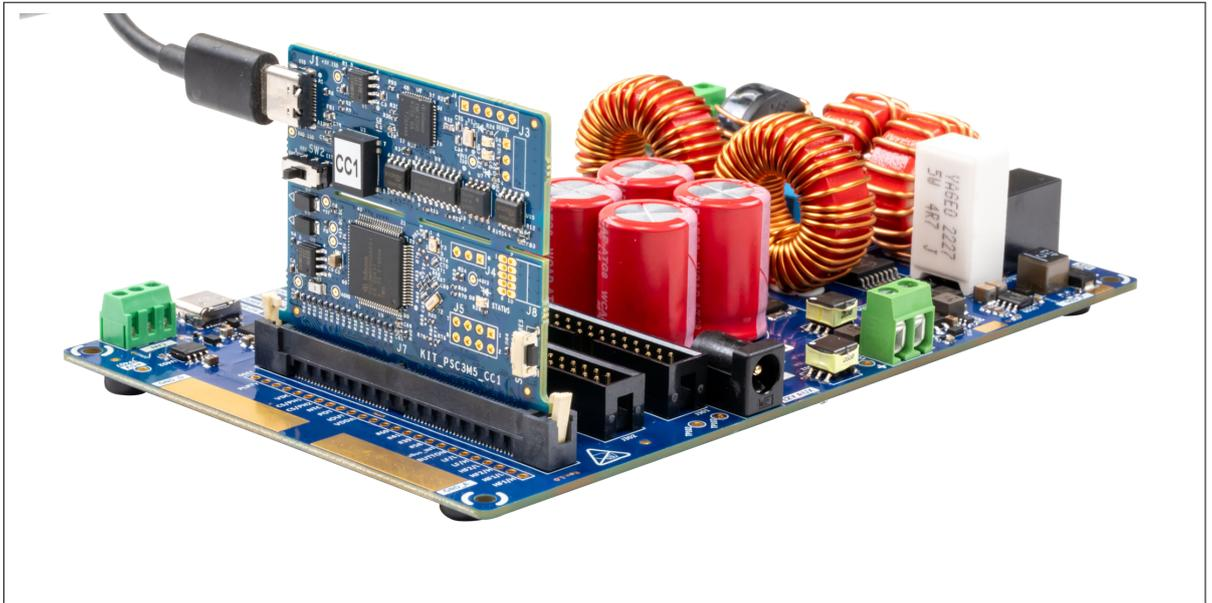

Figure 8 USB-C cable setup for programming the PSOC™ C3 Control Card
3. Connect the USB-C cable to the control card, as shown in Figure 8, and program the control card with the associated code example as described on the kit website
1. Connect the KIT_PSC3M5_CC1 board to the PC using the provided USB cable through the J-Link USB connector, as shown in Figure 8. If you are connecting it for the first time, it enumerates as a USB composite device